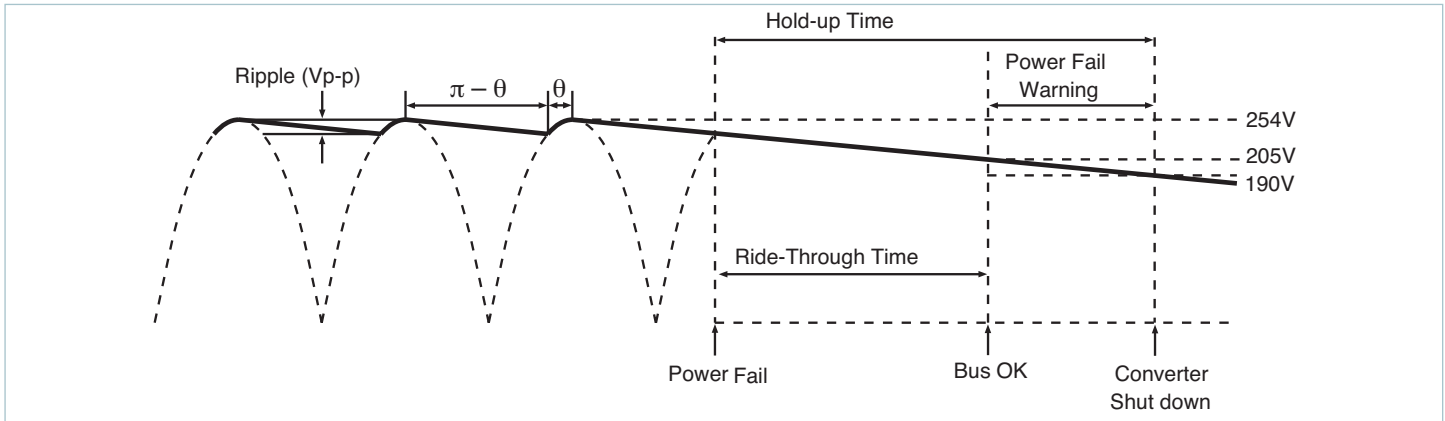
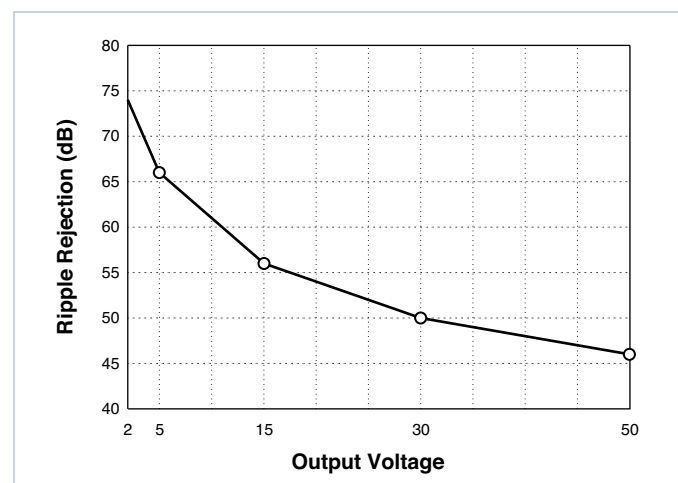

Figure 14 — Hold-up time
Figure 18 — Converter ripple rejection vs. output voltage (typical)
**Hold-up Capacitors:** Hold-up capacitor values should be determined according to output bus voltage ripple, power fail hold-up time, and ride-through time. (See Figure 14). Many applications require the power supply to maintain output regulation during a momentary power failure of specified duration, i.e., the converters must hold-up or ride-through such an event while maintaining undisturbed output voltage regulation. Similarly, many of these same systems require notification of an impending power failure in order to allow time to perform an orderly shutdown.
For example, a converter whose output is 15V and nominal input is 300V will provide 56dB ripple rejection, i.e., 10Vp-p of input ripple will produce 15mVp-p of output ripple. (See Figure 18) Equation 3 is again used to determine the required capacitance. In this case, V1 and V2 are the instantaneous values of bus voltage at the peaks and valleys (see Figure 14) of the ripple, respectively. The capacitors must hold up the bus voltage for the time interval ( $\Delta t$ ) between peaks of the rectified line as given by:
Figure 18 is used to determine the ripple rejection of the DC-DC converter and indicates a ripple rejection of approximately 60dB for a 12 Volt output. If the ripple on the bus voltage is  $12V_{AC}$  and the ripple rejection of the converter is 60dB, the output ripple of the converter due to ripple on its input (primarily 120Hz) will be 12mVp-p.